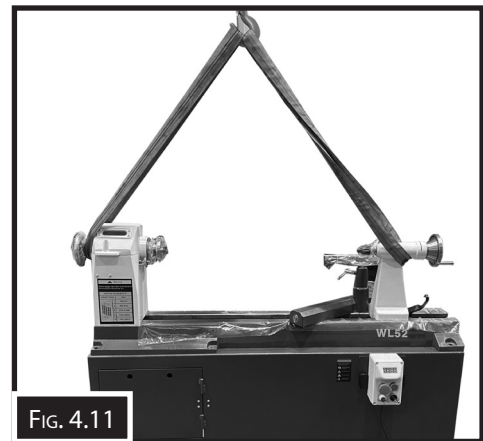

FIG. 4.11
5. Make sure the tailstock has been clamped securely, then place a webbed sling as shown in Fig.4.11. Carefully lift the lathe and place it onto the main channel and attach using the 6 off M10 x 40 Set screws, H/duty M10 washer and M10 shake proof washer.